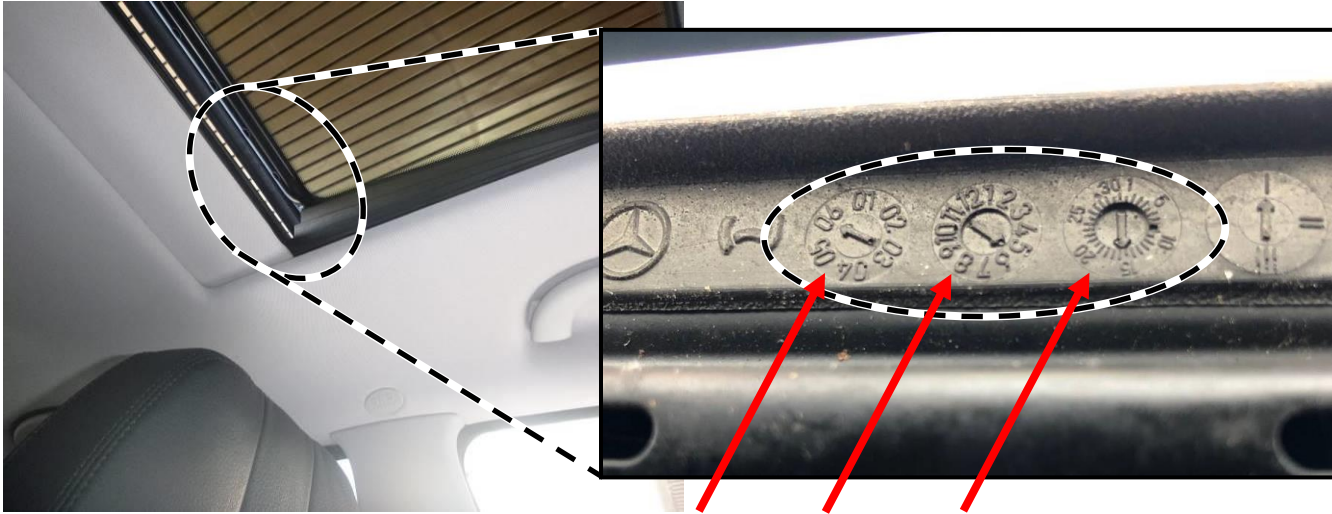

Figure 1 (The production date in the sample picture is (06th year / 5th month / 15th day); **05/15/2006**)
1. Move sliding sunroof to tilt position and check production date (**Figure 1**).
i If the production date is **not** at the location shown (**Figure 1**), the vehicle is **not** affected.
- c. **No** production date present at location shown (**Figure 1**): **End measure**.